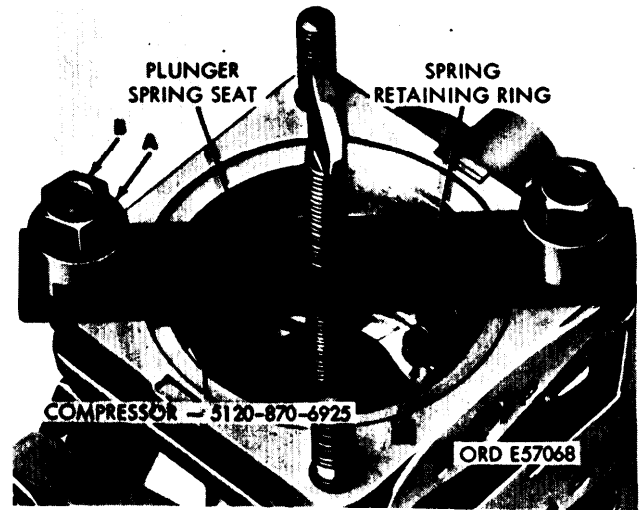

Figure 3-23. Removing spring retaining ring using spring compressor—5120-870-6925.
b. Refer to figure 3-23. Position spring compressor so that holes in spring retaining ring (C) are accessible. Install two stud sleeves (A) and hydraulic head nuts (B). Turn thumb screw clockwise finger tight to compress plunger outer spring. Remove spring retaining ring (C) using suitable pliers. Release tension on plunger outer spring by turning thumb screw counterclockwise and remove spring compressor from housing.